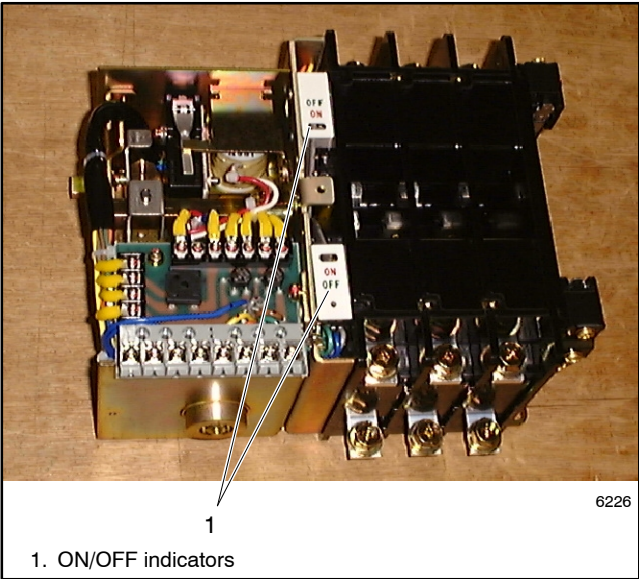

Figure 8-2 ON/OFF Indicators
- 3. Remove the ON/OFF indicators. Save the indicators for installation during reassembly. See Figure 8-2.